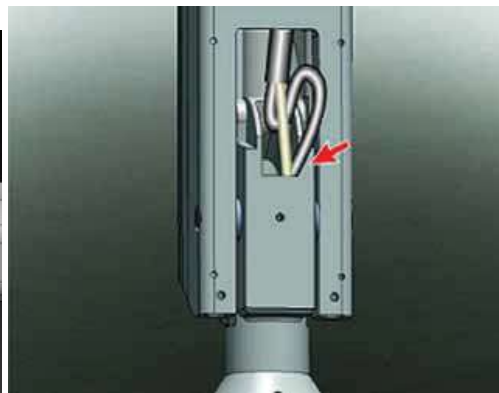
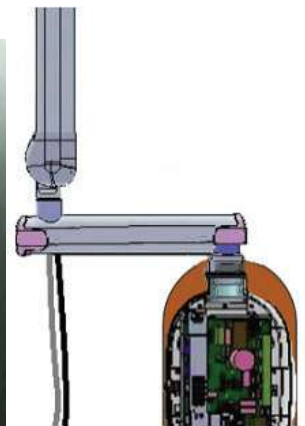

Figure 116
Figure 117
- Insert the scissor-arm cable(First communication cable and then Inverter power cable) into the Scissor Arm swivel guide as shown in the Figure 116 such that it comes out from the bottom hole of the straight arm as shown in the Figure 117 . Use guide wire to route the cables through the straight arm till it comes inside the base unit as shown in Figure 118 .